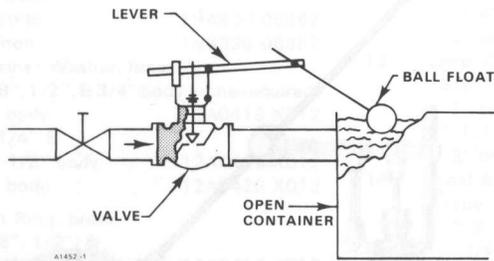

Figure 2. Type 171F Level Regulator Installation
3. Install the valve body in a horizontal pipeline with the bonnet vertically above the valve body. Be sure that flow through the unit matches the direction of the flow arrow on the valve body. Also, make sure the connecting linkage to the Type 171L lever is either directly above or below the lever. Typical installations are shown in figures 2 and 3.